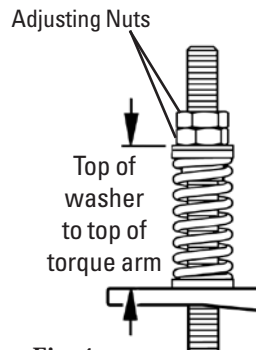

Fig. 4
4. **Reset correct blade tension.** Refer to the chart for the spring length required for the belt width. Lightly pull pivot arm toward end of torque arm slot nearest the pole and turn adjusting nuts until required spring length is achieved (Fig. 4). Tighten jam nut.